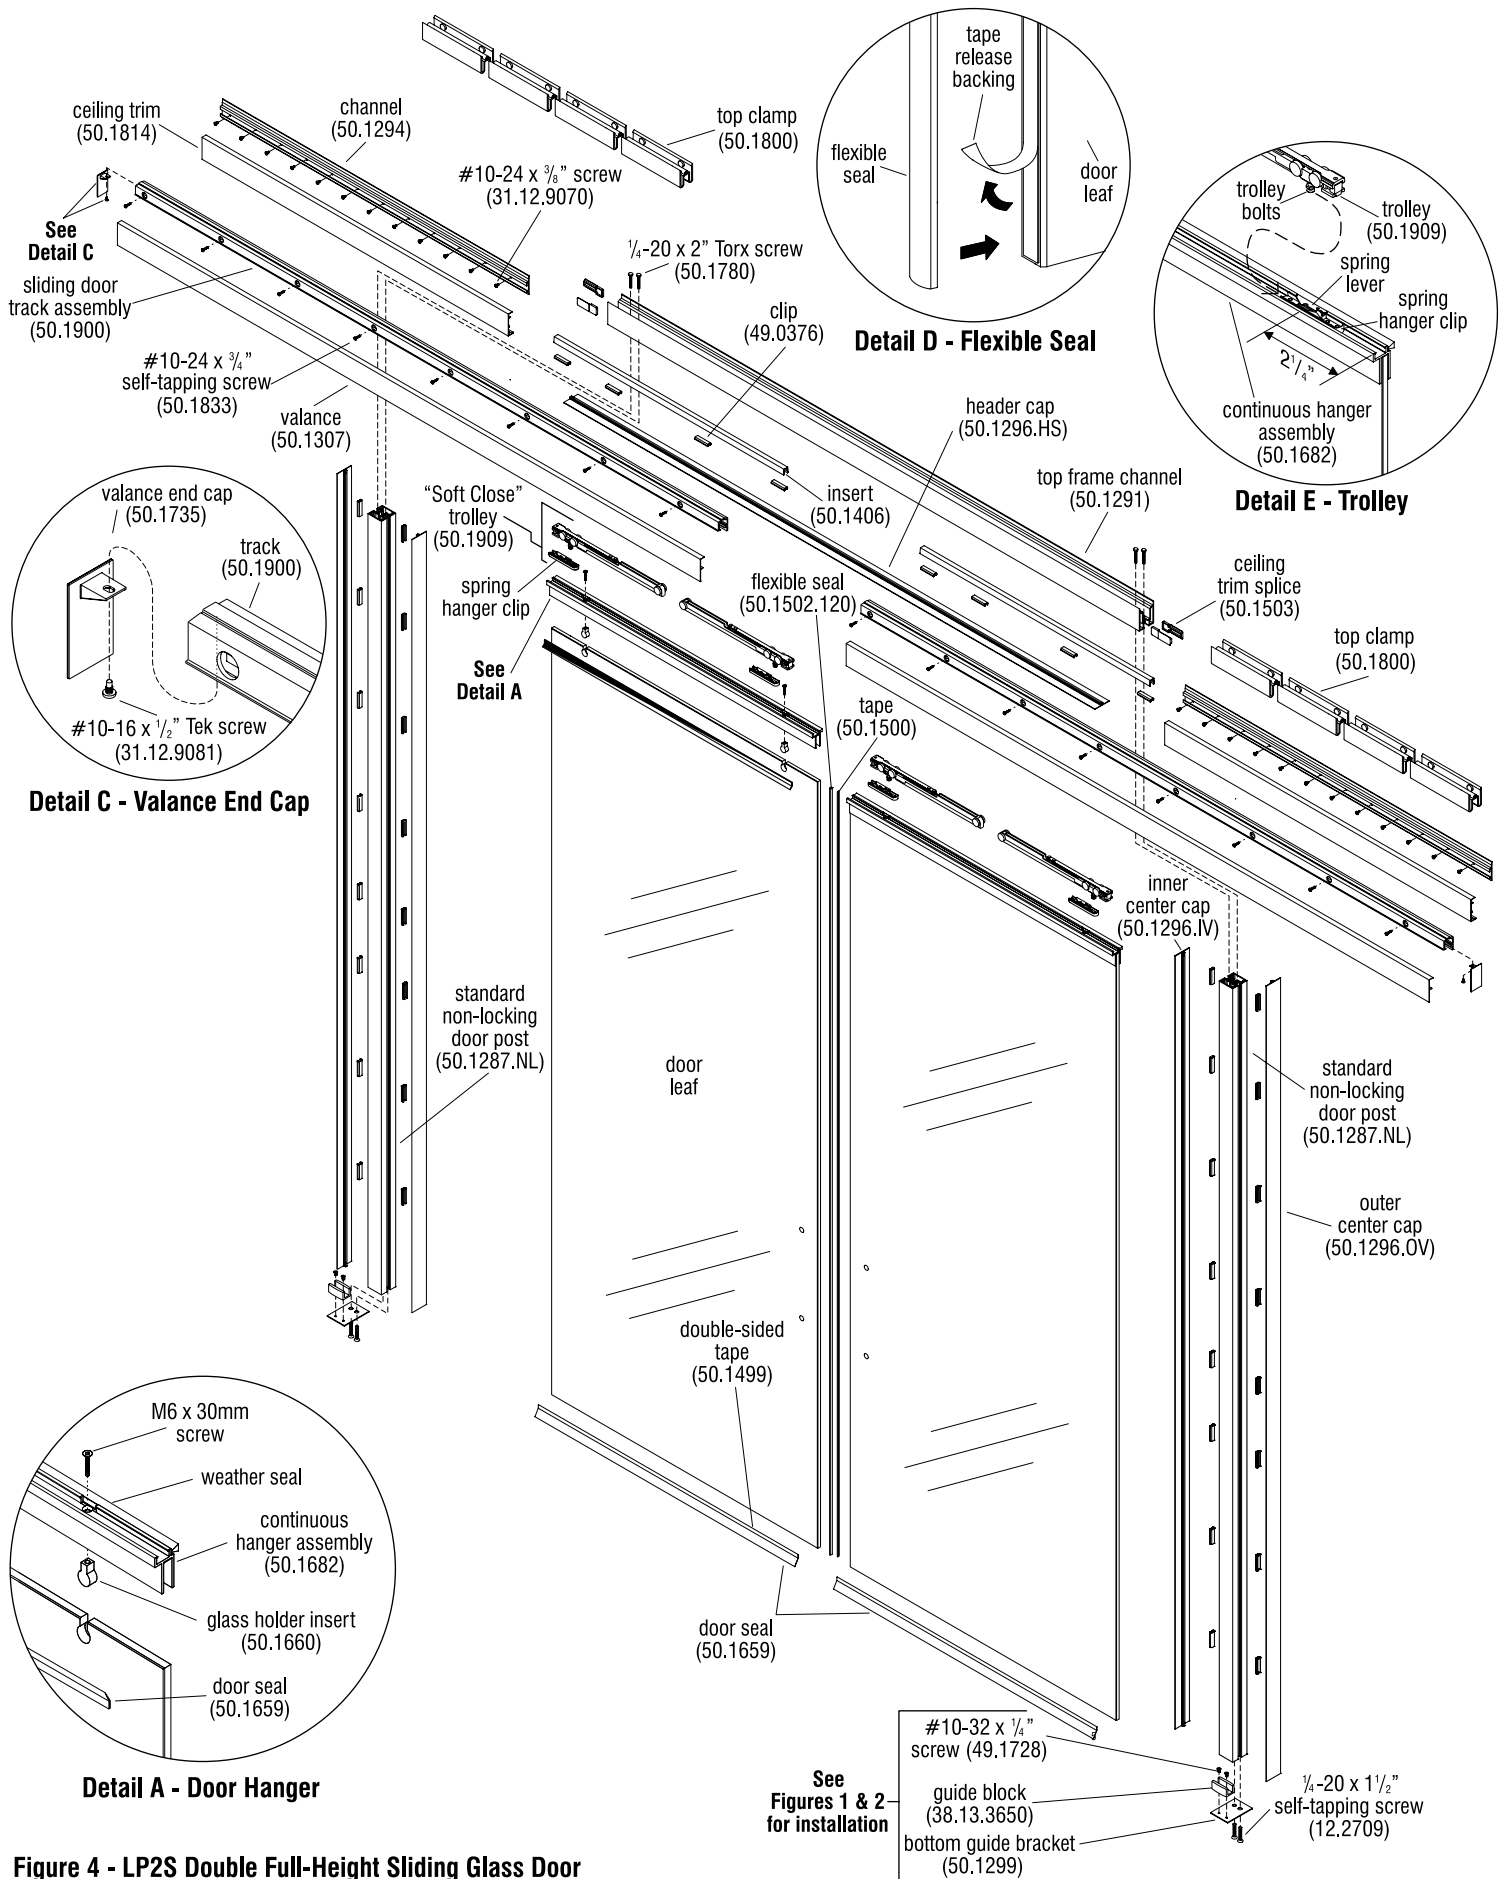

Figure 4 - LP2S Double Full-Height Sliding Glass Door
1. To determine what length the first "standard non-locking door post" must be cut to, begin by installing into position a sample piece of ceiling trim onto the ceiling rail at the door post location. Determine the length by measuring from the bottom of the installed sample ceiling trim, down to the floor at that post location and record that measurement. If carpet is present, account for extra length that the post will sink into carpet, and also remove length for the $\frac{1}{16}$ " thickness of the bottom guide bracket (50.1299) (Figure 4).
2. Locate the first standard non-locking door post, measure from the top of the post to the bottom and mark the recorded measurement onto the post at the bottom end. Cut the bottom of the post off square at that length (Figure 4).
4. Locate the second standard sliding door strike post, measure from the top of the post to the bottom and mark the recorded measurement onto the post at the bottom end. Cut the bottom of the post off square at that length (Figure 4).
5. Stand both door posts up under the ceiling rail at their respective installation locations, take into account the bottom guide brackets which will be installed to the standard non-locking door posts later, and check that the posts are cut to the correct height. Remove the sample ceiling trim once the posts are known to be the correct height (Figure 4).
6. Lay the posts with the top frame channel onto a soft, protective surface on the floor in the correct orientation. Secure the pieces together using four $\frac{1}{4}$ -20 x 2" Torx screws (50.1780) (Figure 4).
11. Position the channel (50.1294) onto the additional panel clamps and push it up until it fully seats against the ceiling rail and against the sliding door frame. Secure the channel to the clamps using twelve #10-24 x 3/8" screws (31.12.9070). Assure the screws secure into the clamps and not into gaps between them (Figure 4).
12. Install the ceiling trim (50.1814) over the installed channel (50.1294), butting it against the top frame channel (50.1291) (Figure 4).
13. Locate the sliding door track (50.1900) and assure it is clean and free of debris. With the assistance of two people, position the track against the top frame channel and the ceiling trim about 1 1/8" from the bottom of the top frame channel to the bottom of the track (Figure 4). Mark each screw hole.
15. Position the track over the pilot holes and secure using eight #10-24 x 3/4" self-tapping screws (PC.12.0006) (Figure 4).
16. Insert the trolley assembly (soft close trolley assembly, 50.1909 or bumper stop trolley assembly, 50.1680 - not shown) into the door track (Figure 4). See separate instructions included with the door stops and trolleys.
17. To hang the sliding door leaf, begin by attaching the continuous hanger assembly (50.1682) to the top of the door leaf. First, apply a strip of seal (50.1659) across the top of the door leaf aligning the non-taped edge to the top edge of the door leaf (Figure 4 & Detail A).
18. Next, remove the M6 x 30mm screws from the glass holder inserts (50.1660) and place the glass holder inserts into the notches at the top of door leaf. Then, slide the continuous hanger assembly over the top of the door leaf (Figure 4 & Detail A).
19. Orient the continuous hanger assembly so the weather seal side faces the door frame. Attach the hanger to the glass using the two M6 x 30mm screws through the countersunk holes in the top of the hanger assembly (Figure 4 & Detail A).
21. With the assistance of a second person, hang the door by first aligning the trolley bolts with the spring hanger clips. The trolley bolts slide into the spring hanger clips and lock into place with spring levers (Figure 4 & Detail E).
33. Measure the distance from the outside of the door frame to the end of the adjacent panel(s) and cut the valance (50.1307) to length (Figure 4).
34. Position the valance end caps (50.1735) on both ends of the track and secure using two #10-16 x 1/2" screws (31.12.9081) (Figure 4 & Detail C).